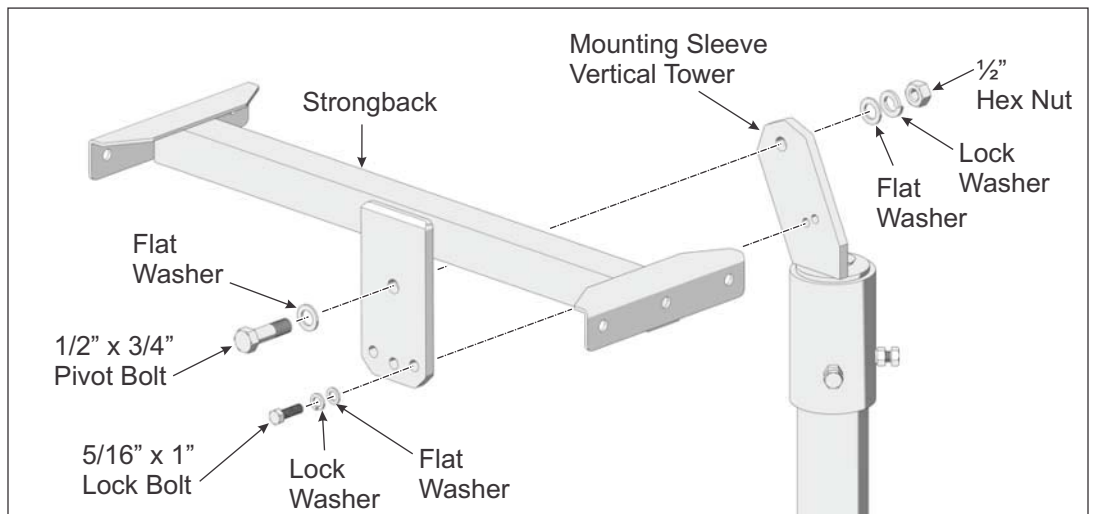

Figure 2-2: Installing the Strongback
- Position the Strongback to the Mounting Sleeve Vertical Tower as shown in Figure 2-2.